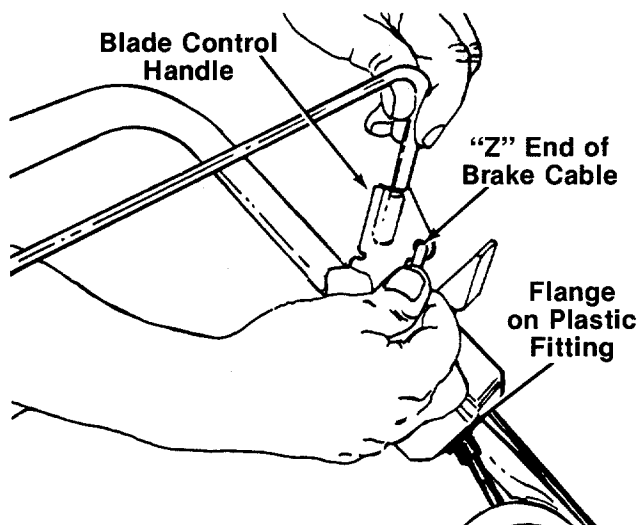

FIGURE 5.
7. Hook the "Z" end of the brake cable into the hole in the brake control handle. See figure 5.